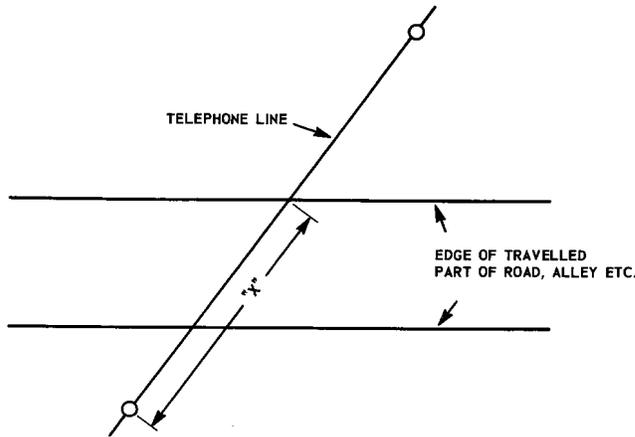

Fig. 1—Midspan Sag Diagram
1.06 Considerable savings in pole height can sometimes be obtained by locating poles so that the low point of a span will not occur above streets, alleys, or driveways. In some cases, this will permit the use of lower clearances. (See Fig. 1 and Tables C and D.) Even when the required ground clearance is the same, the height of pole attachment can generally be reduced since it need not be based upon 100 percent of the midspan sag. The following table shows the approximate percentage of midspan sag occurring at points 50 and 100 feet from the pole for various
span lengths (measured along the cable route as shown in Fig. 1).